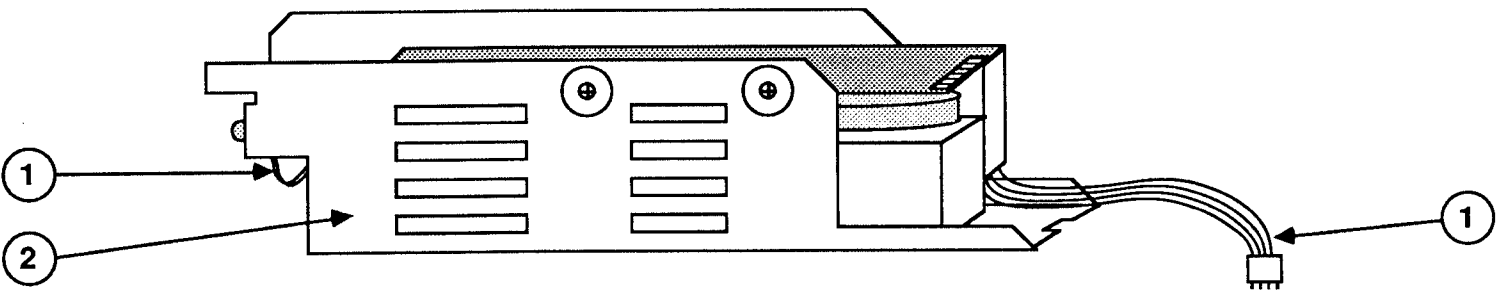

FIGURE 8
- IPL.15 Internal HDA (Figure 8)
□ MACINTOSH SE – INTERNAL HDA (Figure 8)